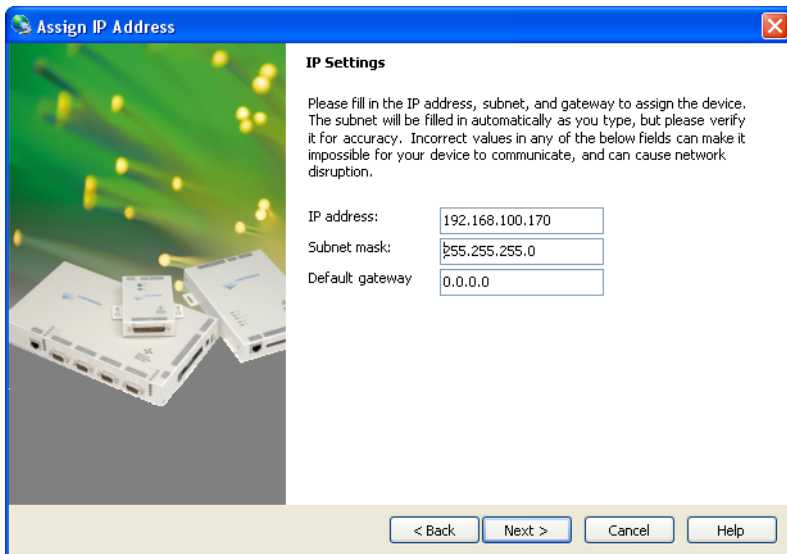

Figure 23: IP Settings Window - Completed
- Click in the “Subnet mask” field. The Subnet mask is automatically updated to match the IP address entered (see Figure 23 on page 17).